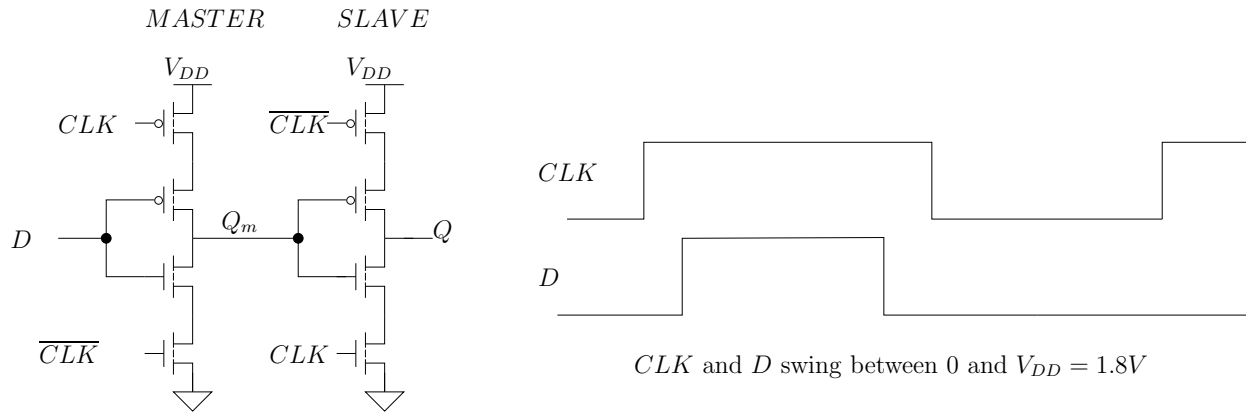

Figure 3: Question 3:Erroneous Dynamic Flip Flop
3. Shown in Fig. 3 is an implementation of a dynamic flip flop. The transistors are sized to achieve equal rise and fall delay while minimizing the area. Assumptions:
- (a) Plot the waveforms of  $Q_m$  and  $Q$  for the first cycle when the input  $D$  is as shown in the Fig. 3. Mark all steady state voltage values.